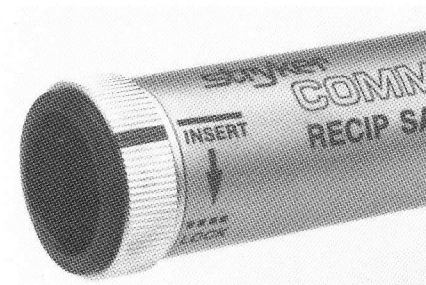

Figure 6
1. Rotate handpiece collar fully counterclockwise to the INSERT position. See Figure 6.
1. Rotate handpiece collar so that the orientation mark of the handpiece aligns with the orientation mark of the cable connector in the INSERT position. See Figure 6.